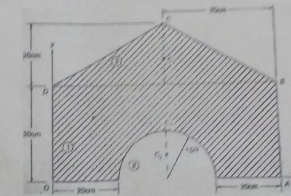

Fig. 8
- b. Calculate the second moment of area of the shaded portion as shown in fig. 8.